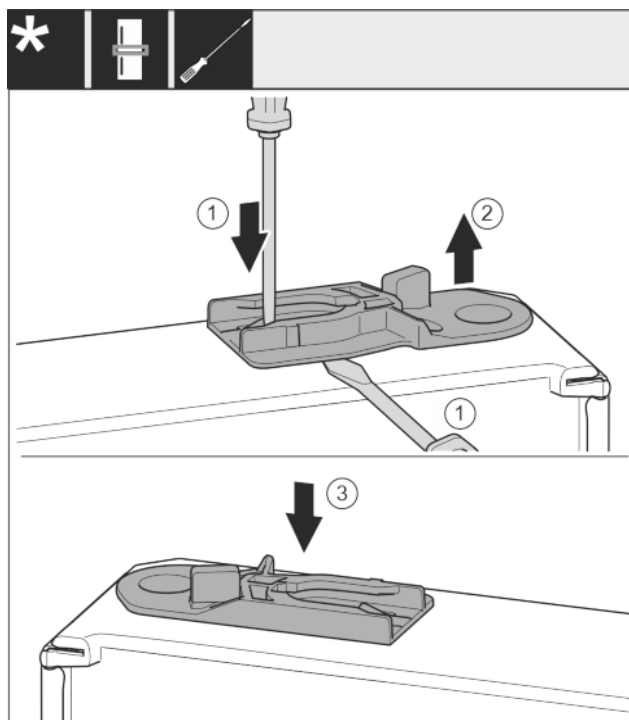

Fig. 29
- Pull out the guide bush: Press the lug with a slotted screwdriver and, at the same time, insert the slotted screwdriver under the guide bush. *Fig. 29 (1, 2)*
- Slide the guide bush included in the scope of supply to the other side of the housing. *Fig. 29 (3)*